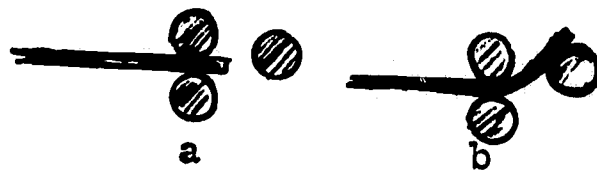

Fig. 2. Forming a cylinder
3. Adjust the back roll by raising it with two turns of the adjusting screws. Make sure the back is parallel to the other rolls. See Fig. 2.